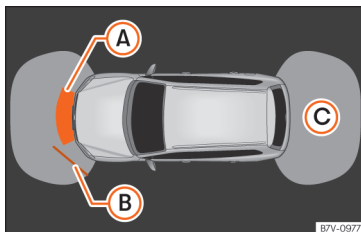
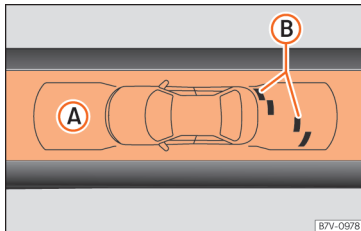

Fig. 273 On-screen OPS display: **A** has detected an obstacle in the collision zone; **B** has detected an obstacle in the segment; **C** zone recorded behind the vehicle.
Fig. 274 On-screen OPS display: **A** area recorded in front of the vehicle; **B** an obstacle has been detected in the segment.
The image displayed represents the superimposed zones in several segments. As the vehicle approaches an obstacle, it approaches the displayed vehicle segment » » » **Fig. 273 (B)** and » » » **Fig. 274 (B)**. Ultimately, when the second-to-last segment is shown, the collision area has been reached. **Stop the vehicle!**